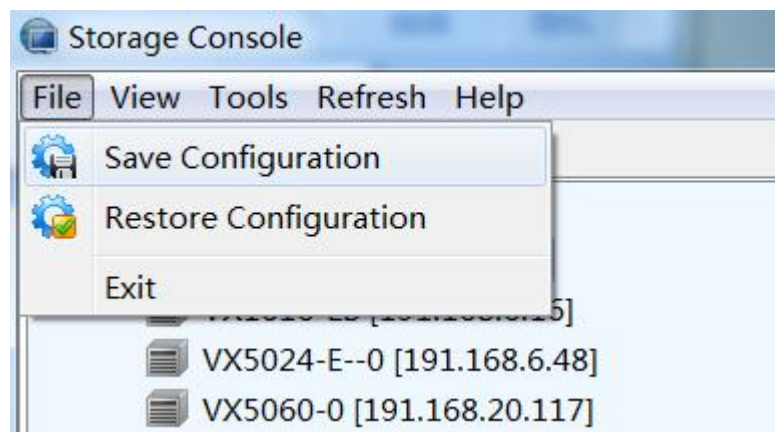

Figure 14-1 Save the configuration 1
- (1) Left click the storage controller of login in the catalogue tree, and then select **[File > Save Configuration]**, as shown in the Figure 14-1: